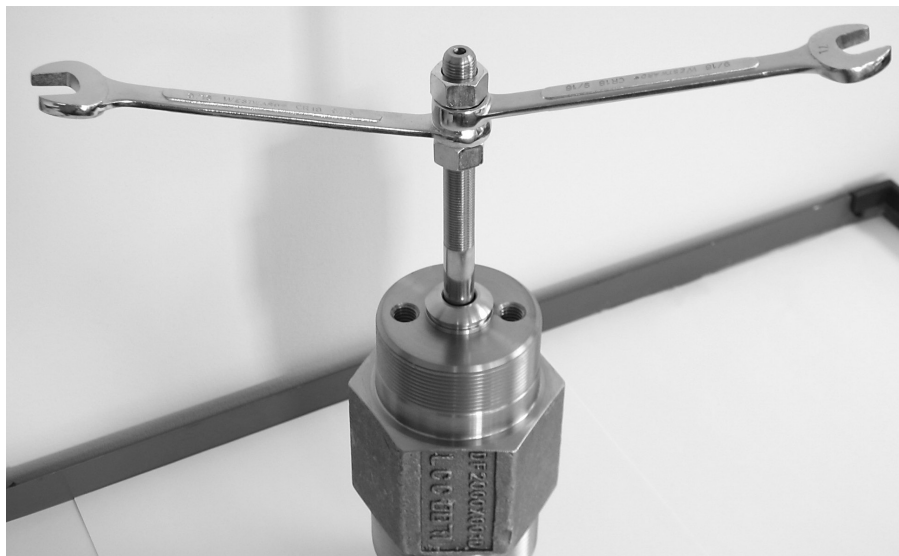

Figure 3 Lapping Handle
- 7 See Figure 3 on how to use 2 stem nuts and two 9/16" box end wrenches as a handle to lap the seat.